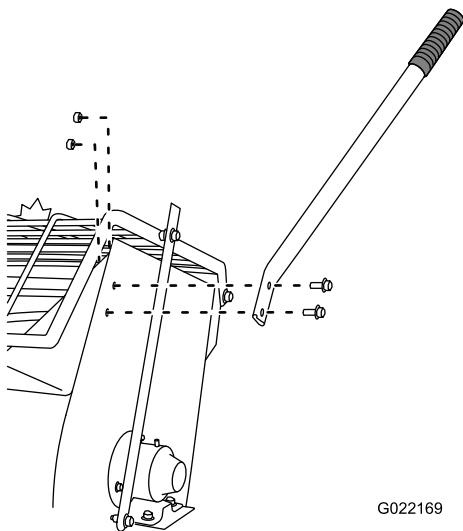
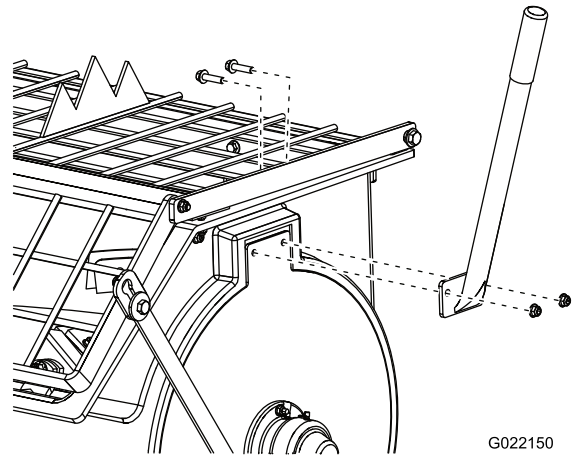
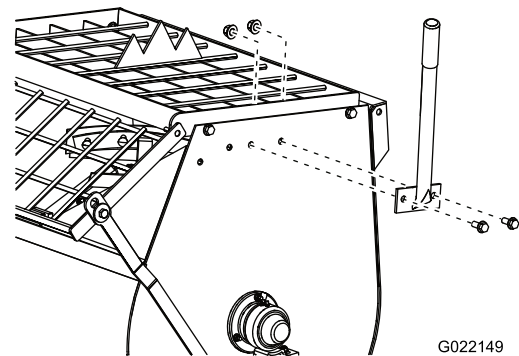

Figure 3
Figure 4
Figure 5
2. Position the dump handle so that the bolt holes align with the bolt holes in the drum (Figure 3, Figure 4, or Figure 5).
3. Insert the 2 bolts through the bolt holes in the dump handle and the drum (Figure 3, Figure 4, or Figure 5).